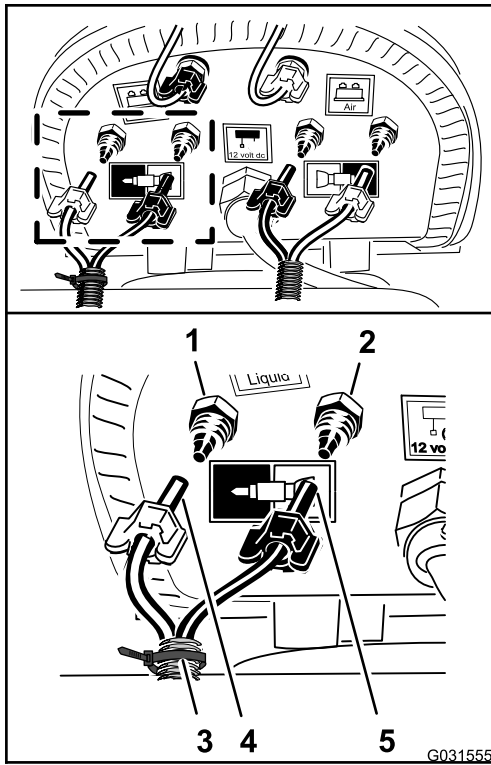

Figure 213
3. Connect the tubing with the cable tie that you installed in step 1 of Removing the Liquid and Air Tubes from the Machine (page 16) by aligning the blue tube for the right boom section onto the compression fitting for the right boom section water circuit (Figure 213).
4. Assemble the compression nut for the tube onto the fitting and tighten the nut by hand (Figure 213).
5. Aligning the clear tube for the right boom section onto the compression fitting for the right boom section air circuit (Figure 213).
6. Assemble the compression nut for the tube onto the fitting and tighten the nut by hand (Figure 213).